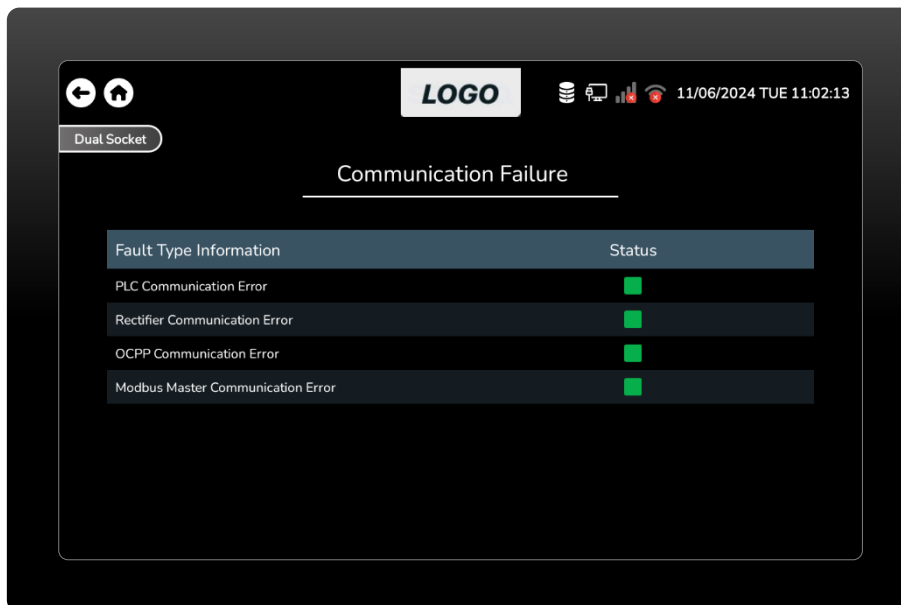

Figure 77 Communication Failure Screen.
- This is the communication failure screen, where the user can view information about communication errors such as PLC, rectifier, OCPP, and Modbus master. (Figure 77)